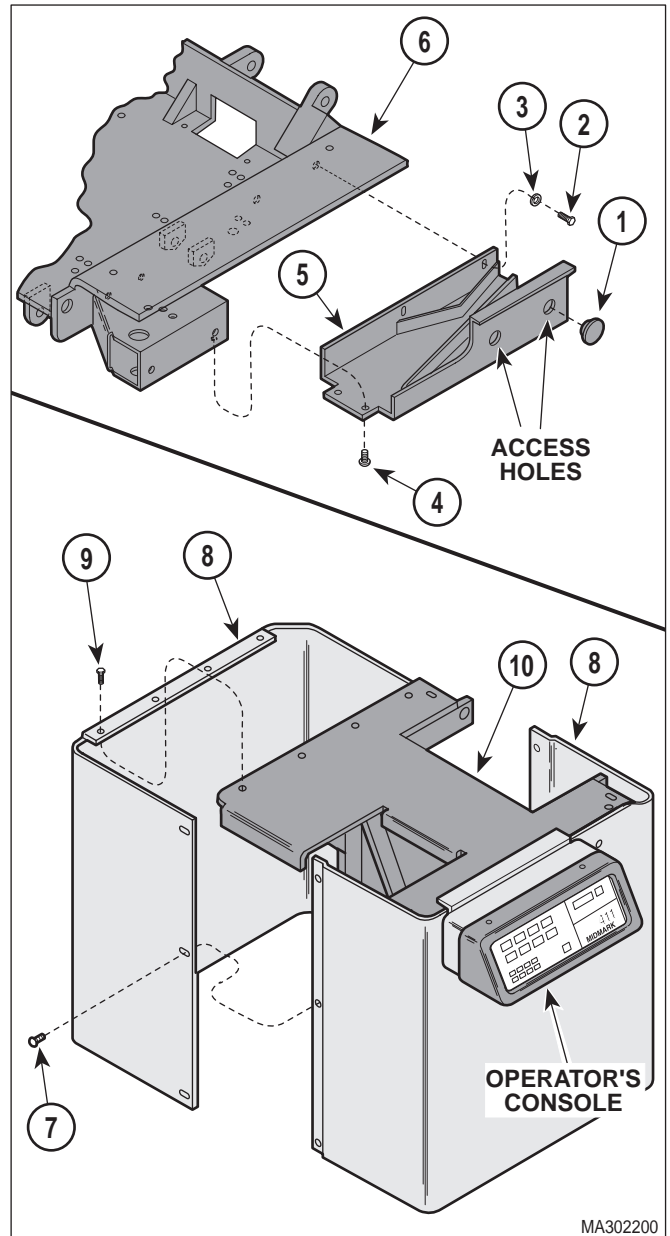

Figure 4-1. Shrouds Removal / Installation
- (3) Remove two plugs (1, Figure 4-1) from access holes; then remove two screws (2), lockwashers (3), two screws (4) and guide weldment (5) from seat weldment (6).
- (4) Remove six screws (7) securing R.H. and L.H. shrouds (8) together.